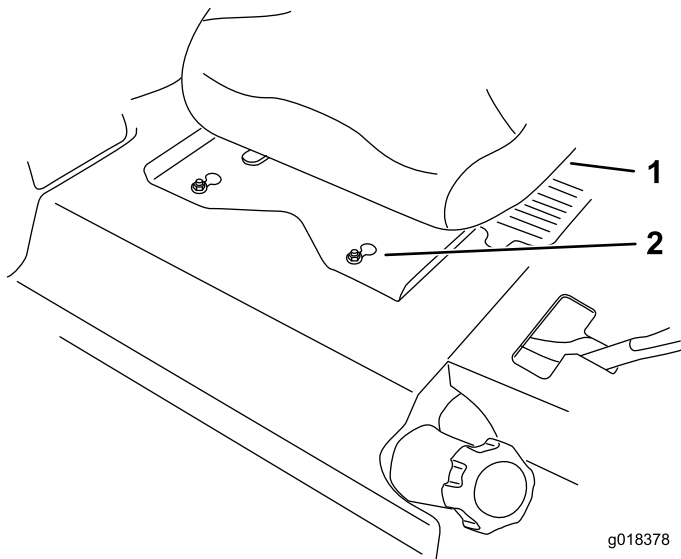

Figure 63
7. Slide the seat and seat plate forward to allow the front nuts to go through the key hole (Figure 63).